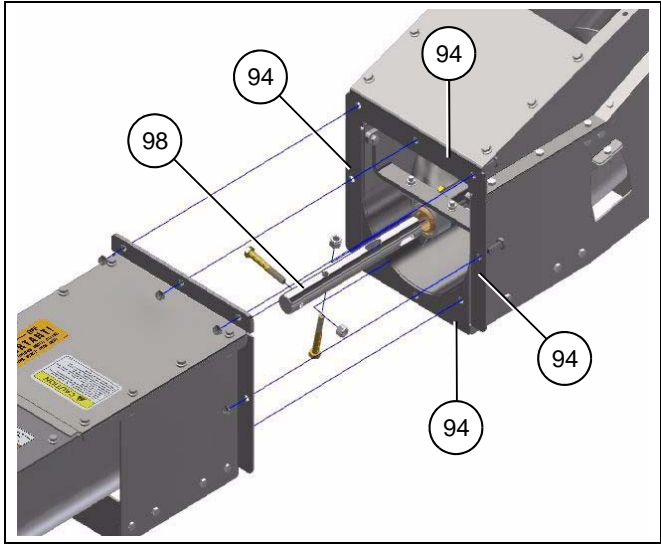

Figure 4BB
3. Install the incline elbow assembly on the end of the unloader. Insert the incline shaft (98) into the flight bushing. Secure the incline elbow assembly to the unloader end by installing the eight nuts and bolts remove in Step 1 around the perimeter of the box flange (94). Install the two 3-1/2" bolts and nuts in the flight bushing to couple the flighting. (See Figure 4BB.)